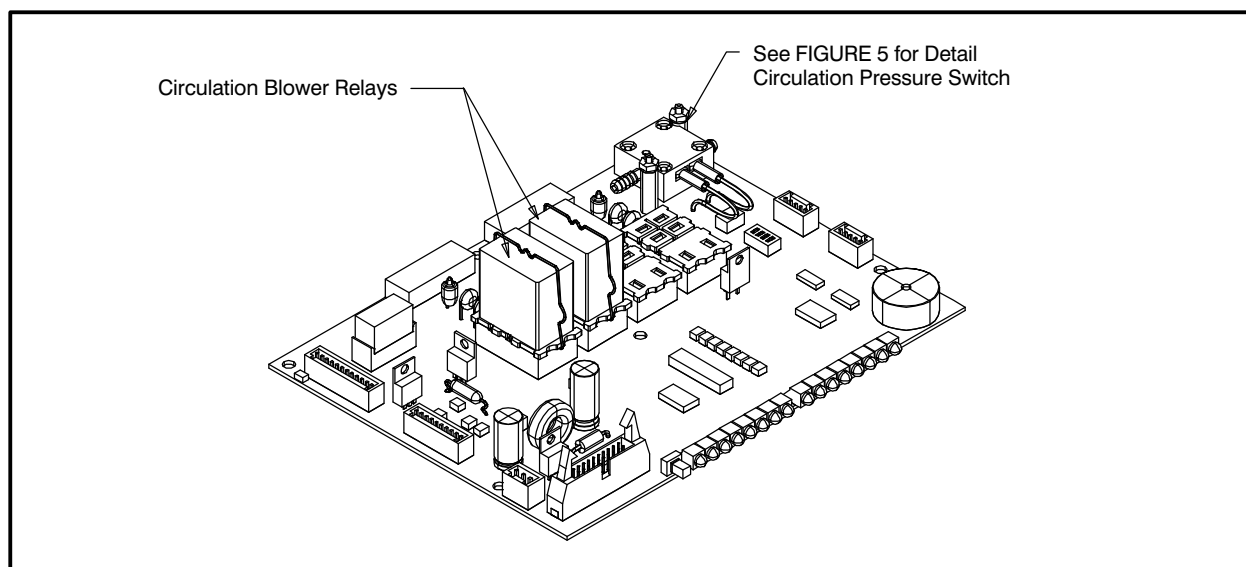
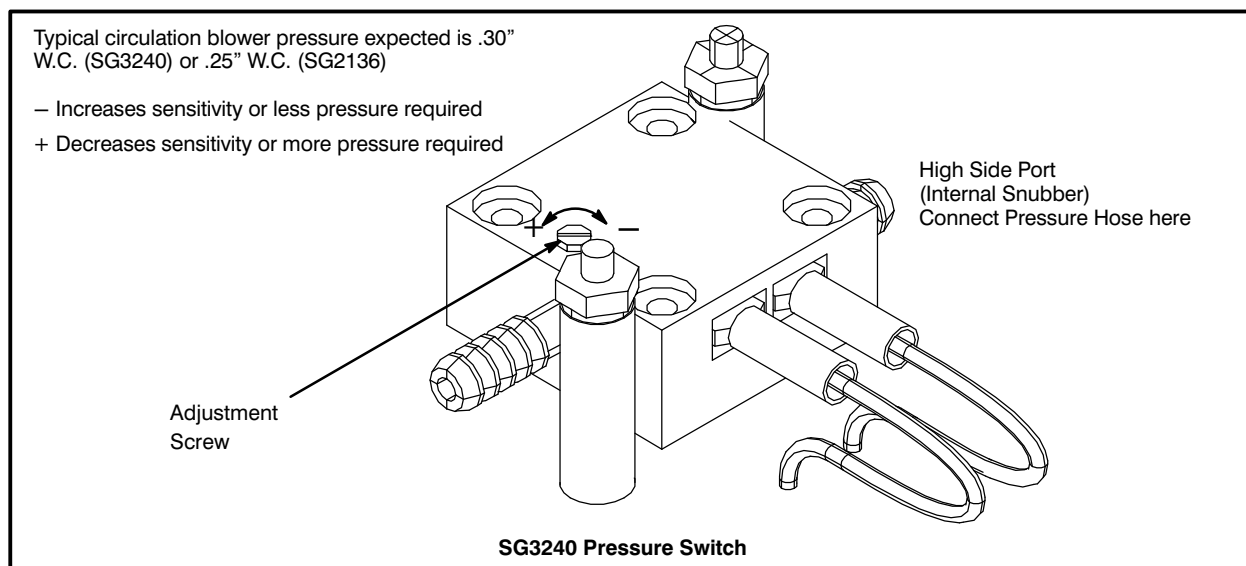

FIGURE 4
FIGURE 5
3. Install the new pressure switch. See FIGURE 4 and FIGURE 5.